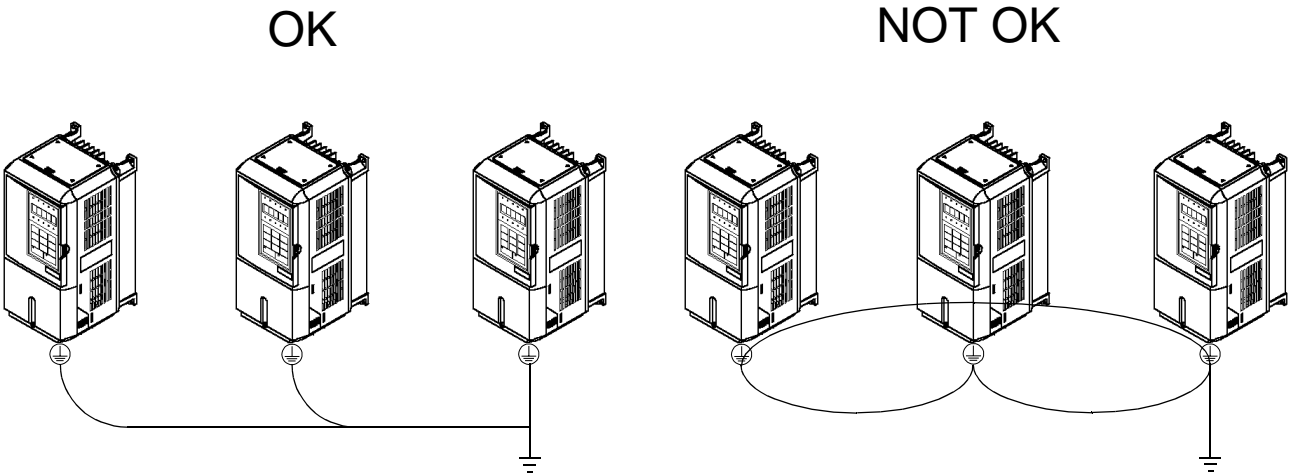

Fig 2.2 Ground Wiring Examples
5. When using more than one Drive, be careful not to loop the ground wire. See Fig 2.2.